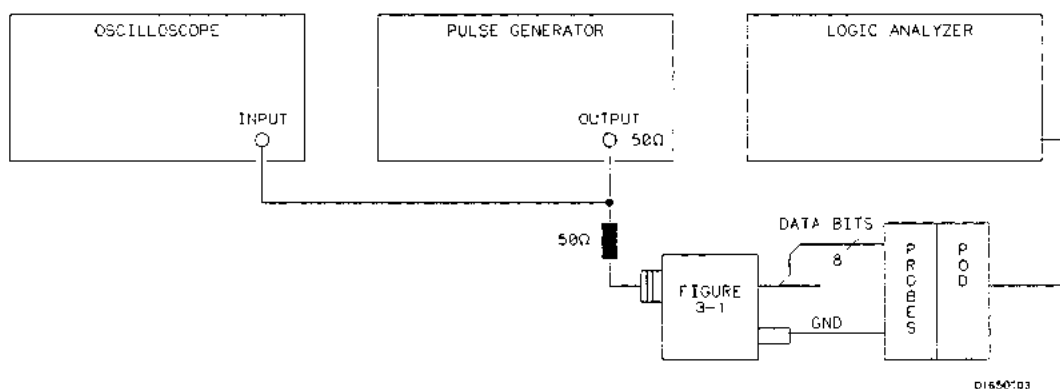

Figure 3-30. Setup for Glitch Test
1. Connect the test equipment as in figure 3-30. The clock inputs are not used for the glitch test since glitch detection is part of timing analysis. Use the oscilloscope to make sure pulses are 5 ns wide at the threshold (1.6 V).